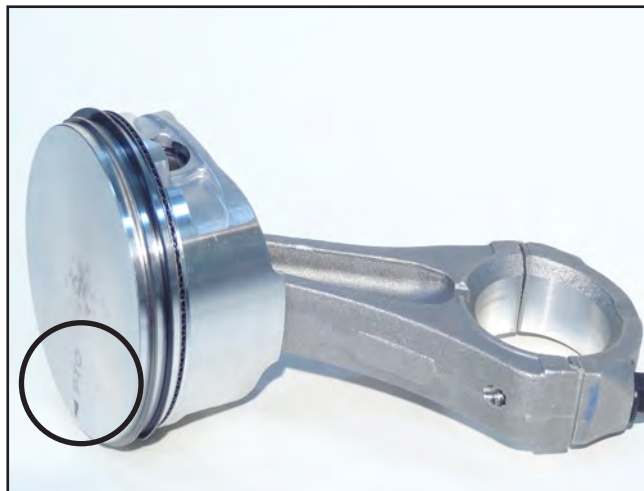

Figure 8
3. Orient the piston with the "PTO" mark pointing down (Figure 8).
4. Assemble the piston to the connecting rod with the long length rotated 90° counter-clockwise (CCW) of the PTO (circled below) (Figure 8).